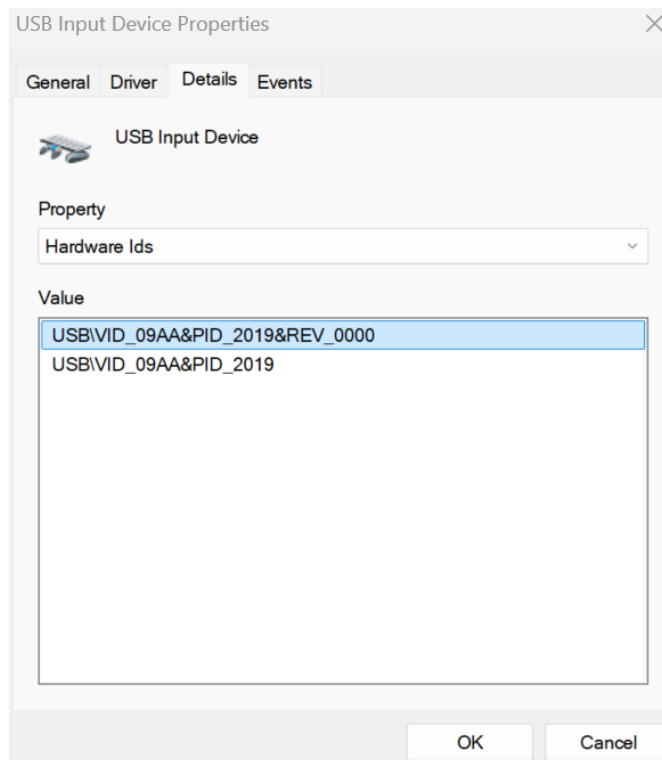

Figure 19. HID Device ISLUSBPMBADAPT3Z VID = 09AA and PID = 2019
- e. Verify that the VID is 09AA and the PID is 2019 as shown in Figure 19.